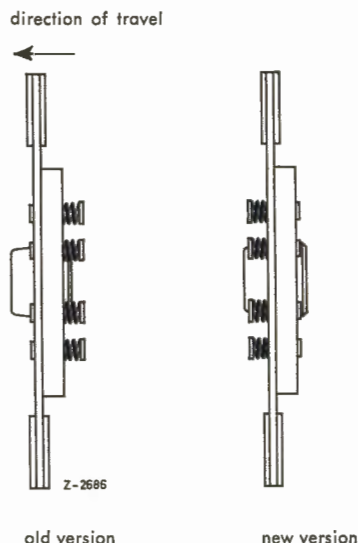

Fig. 25-1/4
On the **new driven plate** Part No. 001 250 11 03 for Models 230, 230 S, 230 SL, 250 S, and 250 SE the **friction damping springs** are also arranged **on the flywheel side** (Fig. 25-1/4). To ensure correct installation, the new driven plate is stamped "Kupplungsseite" on the side facing the clutch (see Page 25-0/1b).
10. Fit the clutch pressure plate and screw it down (Fig. 25-1/7).